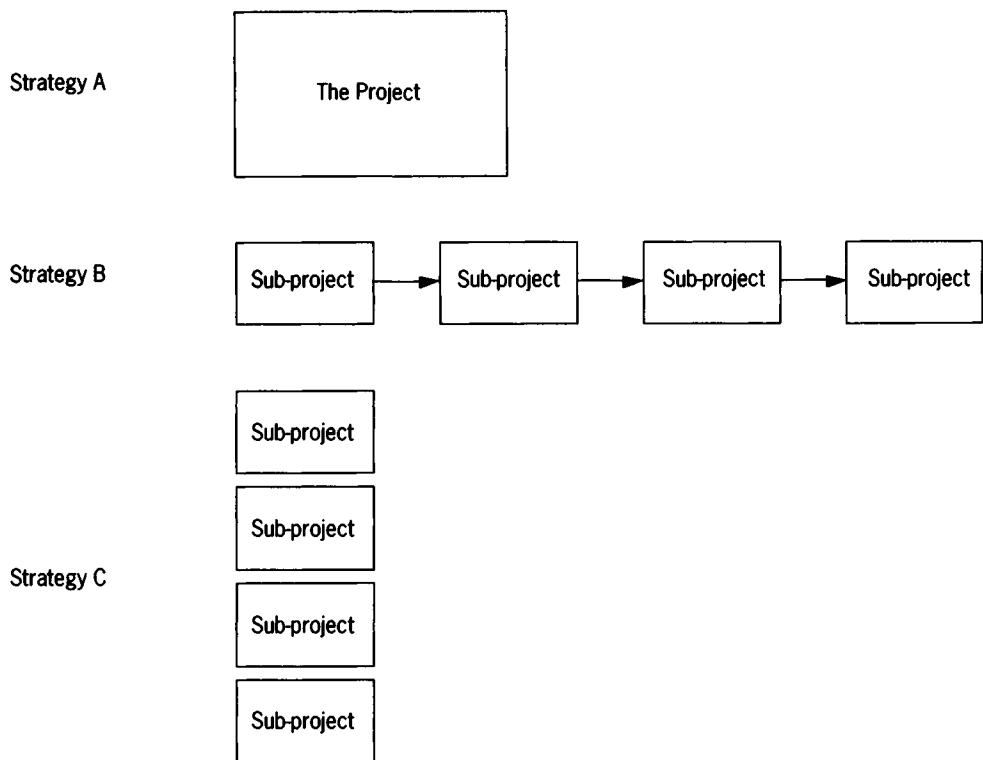

Figure 64 Three possible Project Strategies to deliver the same outputs
- (A) one large, all-embracing, widest scope project
- (B) a series of sub-projects, each with limited objectives and scope, run in series
- (C) a series of sub-projects, each with limited objectives and scope, run in parallel.
For example, as illustrated in Figure 64, a project of the type in (A) above might be dauntingly large, complex, resource-intensive, of long duration, and likely to face all the risks and issues that go along with these characteristics. On the other side of the equation, it will avoid the interface risks and multi-project complexities that types (B) and (C) may face.